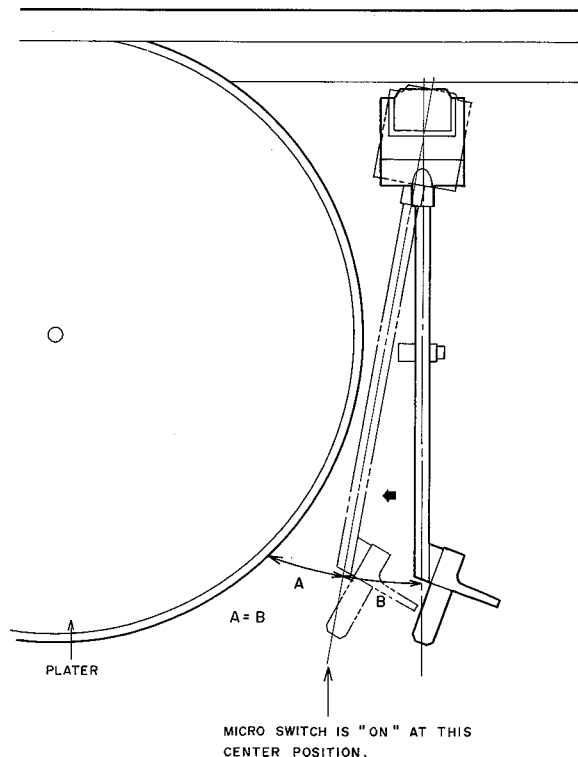

Fig. 6-4
- 5) Move the Tone Arm to the spindle side, and confirm that micro switch is switched "ON" at about center between Tone Arm Rest position and platter as shown in Fig. 6-4.